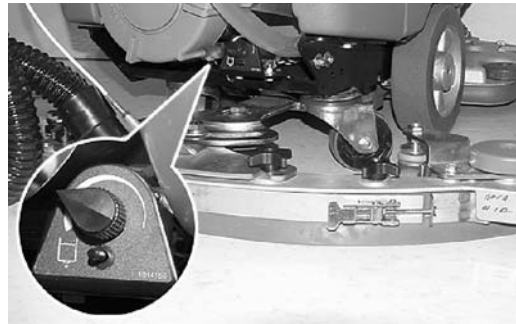

FIG. 17
7. For conventional scrubbing, turn the solution flow control knob to a desired flow rate (Figure 17).